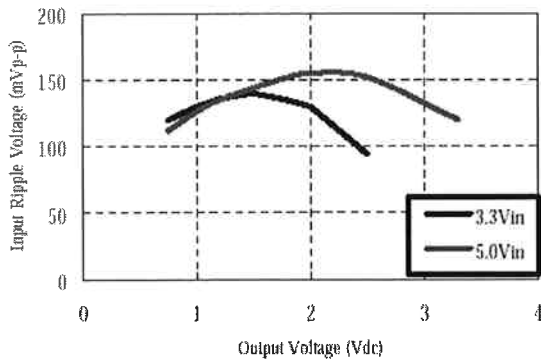

Figure 7 Input voltage ripple VS Output voltage
2. 4 \times 100 μ F tantalum // 2 \times 47 μ F ceramic ---- Figure 7